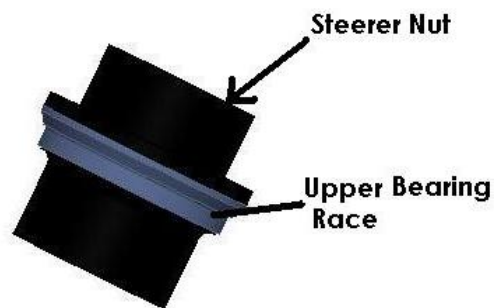

Fig. 3
Step 3) Slide the Bearing Top Race on to the Steerer Shaft Nut. See Fig. 3